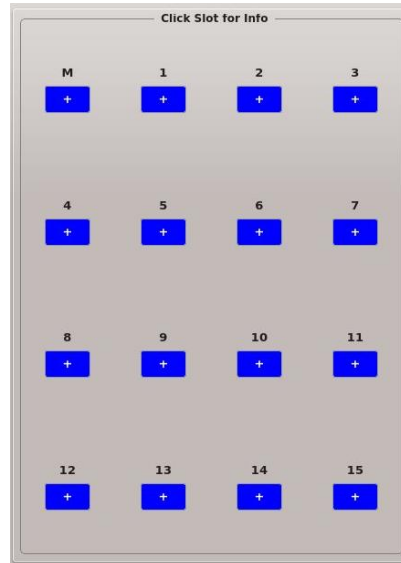

Figure 3-11 M51W screen indicating USB drives are inserted
1. Insert the master drive on the master slot and up to 15 target drives on the copy slots labeled 1-15. The USB slot icons on the GUI turn blue as soon as the USB drives are inserted and recognized by the M5100-PR unit, as shown in Figure 3-11